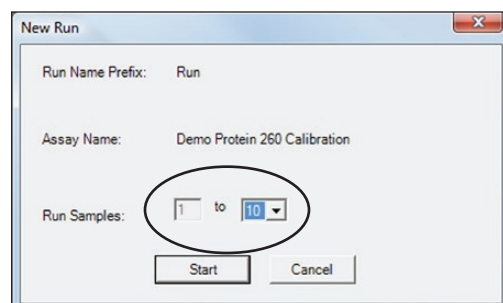

Fig. 3.5. New Run dialog. The Experion system stops analysis when it reaches the number of samples entered.
5. In the **New Run** dialog (Figure 3.5), select the number of samples to be analyzed. Though all wells are filled, the Experion system stops the analysis when it reaches the number of samples entered.